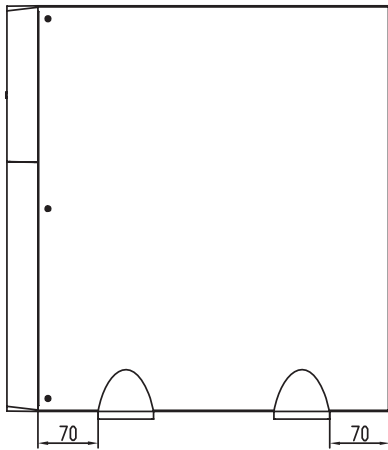

Fig. 4. Vertical tower-type mounting.
- Place the UPS upright between the two bases at a distance of 70 mm from each end (see Fig. 4).